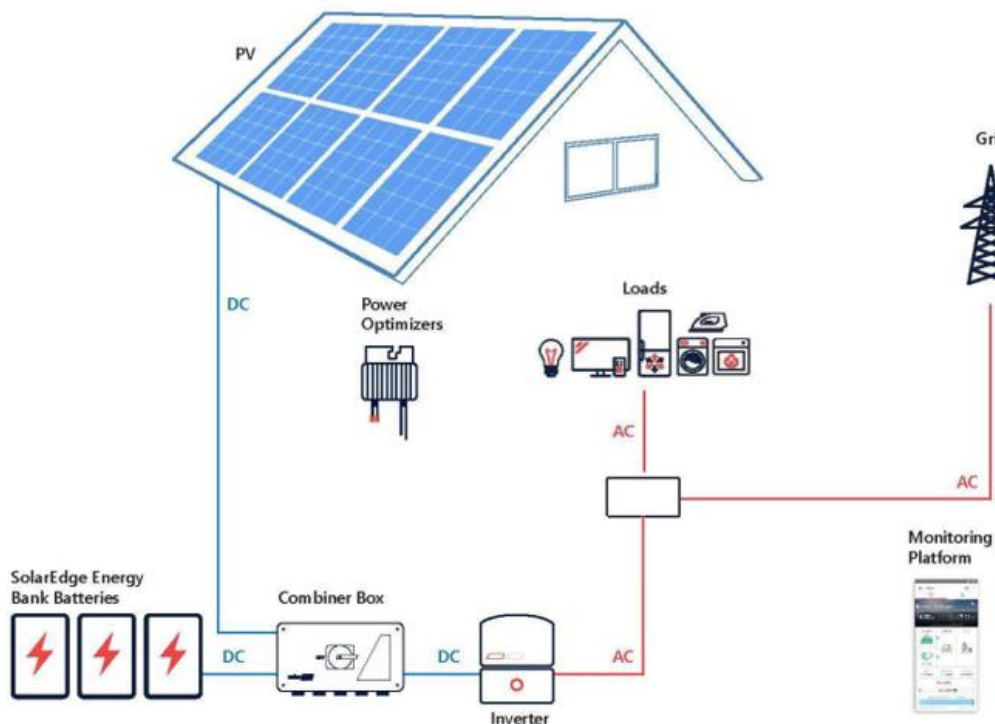

Figure 2 System Overview – Retrofit Battery System without backup interface
- PV Array DC Isolators – provides means for isolating the PV array from the inverter (not shown in Figure 2).
- Battery Integrated DC Circuit Breaker – provides a means of isolating the Battery from the inverter (not shown in Figure 2).
- Inverter AC Isolator – provides method of isolating the PV array and inverter from the relevant switchboard and electrical distribution grid.(not shown in Figure 2).